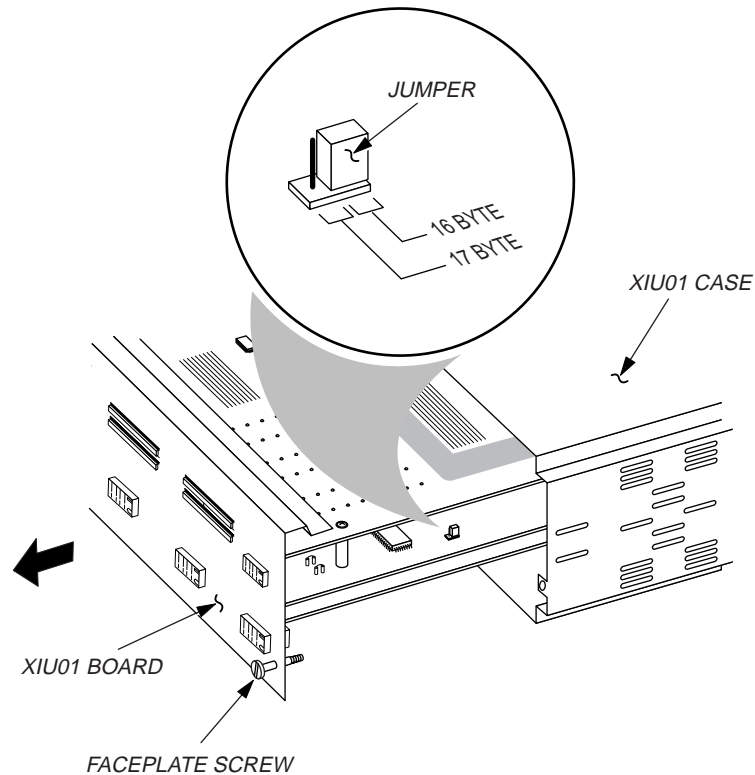

Figure 1-2 XIU01 Jumper
- c) Loosen two faceplate screws on front of board and carefully remove the faceplate and inner circuit boards from the case (see Figure 1-2).